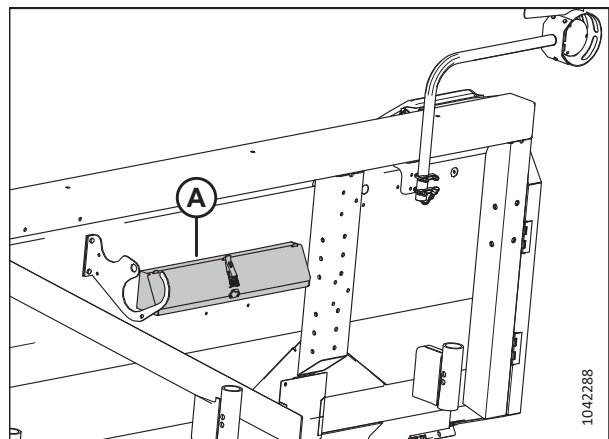

Figure 3.6: Toolbox on Back of Header
Toolbox (A) shown in Figure 3.6, page 14 is not installed on folding headers.